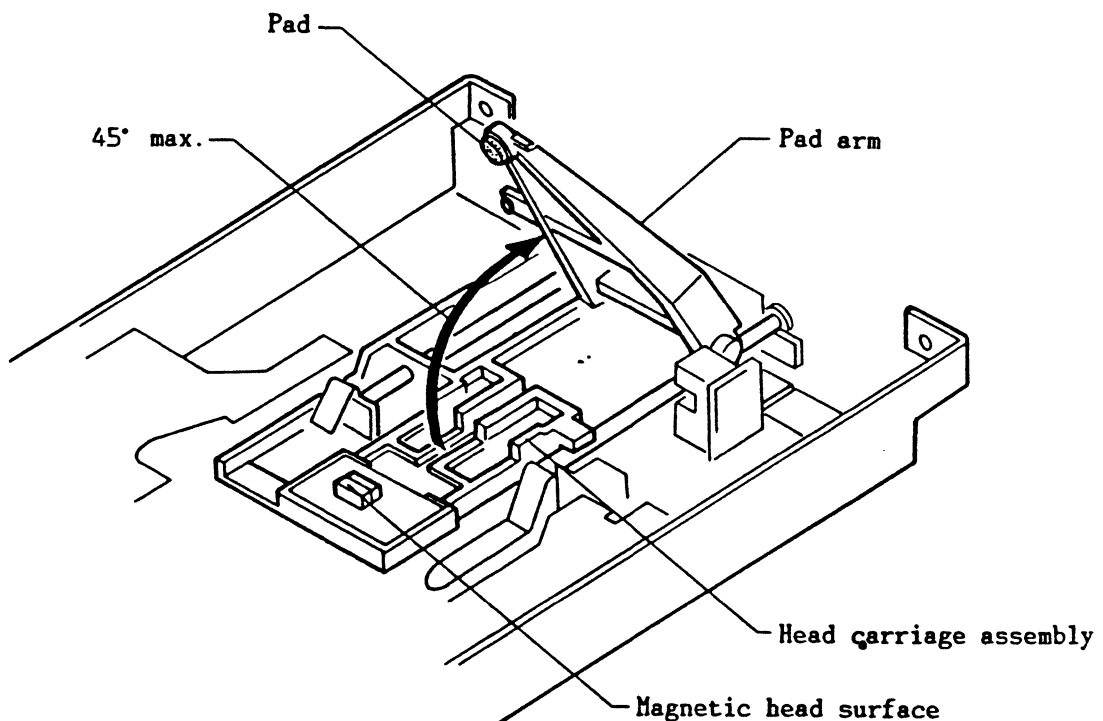

Fig. 407 Cleaning Magnetic Head
- (1) Wet the applicator or gauze slightly with alcohol.
- (2) Raise the pad arm (Fig.407), and clean the head surface carefully by the applicator or gauze.